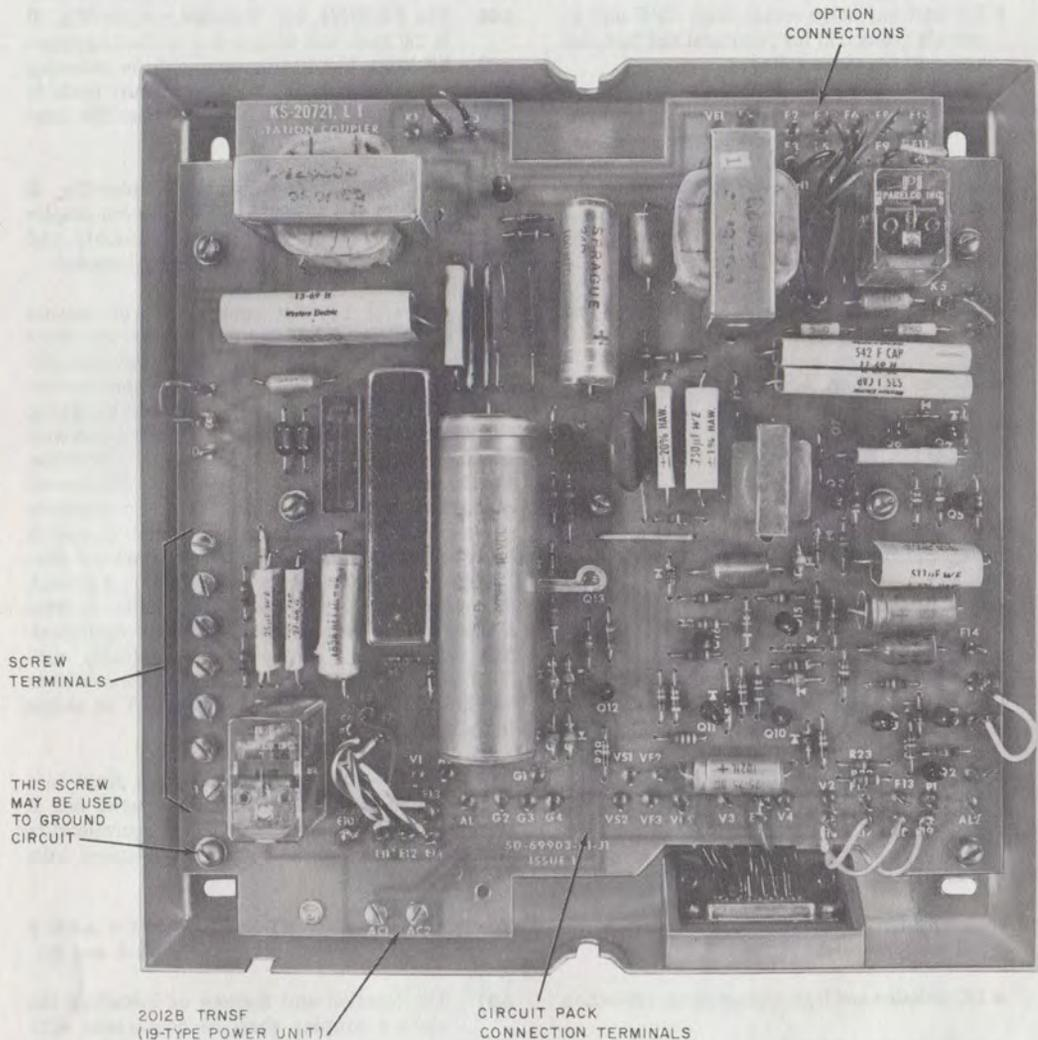

Fig. 2—KS-20721, List 1 Station Coupler, Cover Removed
2.02 The KS-20721, List 1 station coupler (Fig. 2) is the basic unit designed to be field equipped with a KS-20721, List 10 hinge assembly for mounting the optional circuit pack. The circuit pack is equipped with quick connect connectors for easy installation.